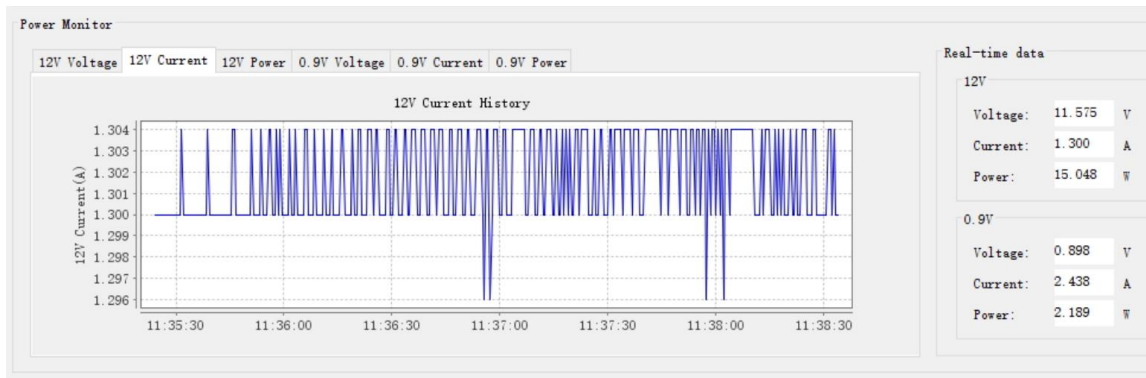

Figure 8-9 Power Monitor Section
- **Power Monitor:** It will show the 12V/0.9V real-time voltage, current and power consumption of the TR10a-LPQ board, as shown in **Figure 8-9**.